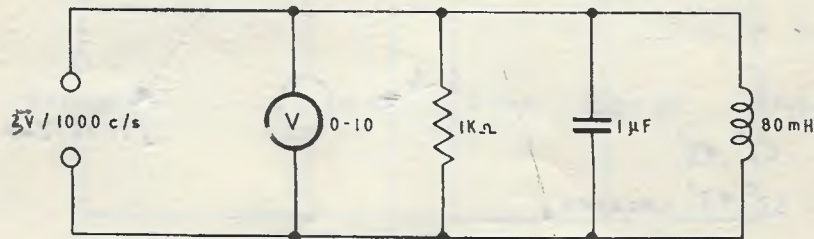

FIG. 2.
3. What would be the effect on the following when the value of resistance in Fig. 2 is disconnected
**STEP 1.** Connect the circuit as shown in Fig. 2.